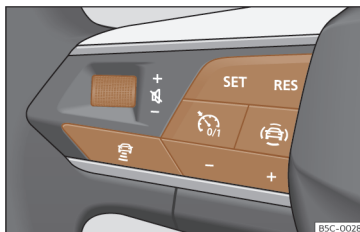

Fig. 156 On the multifunction steering wheel: buttons to operate the ACC
Your vehicle has ACC if it has a configuration menu in the infotainment system»» page 86 and if it has the ACC function buttons on the multifunction steering wheel»» **Fig. 156**.
- To start regulation, press the button **SET** »» Fig. 156.
To program the speed, press the **+** or **-** >>> **Fig. 156** buttons to the desired speed. The speed is adjusted at intervals of 10 km/h (5 mph).
- Press the button  and then the button **+** or **-** >>> **Fig. 156**.